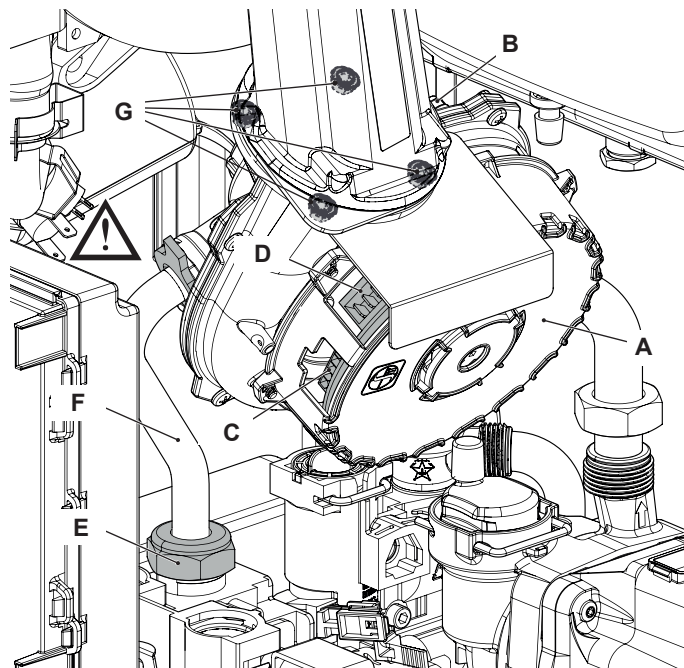

Figure 17.2
- 3 Unscrew the gas connector "E" and remove the gas pipe "F" (Figure 17.2).
Before reassembling ensure the fan gasket (Figure 17.2) is correctly mounted.